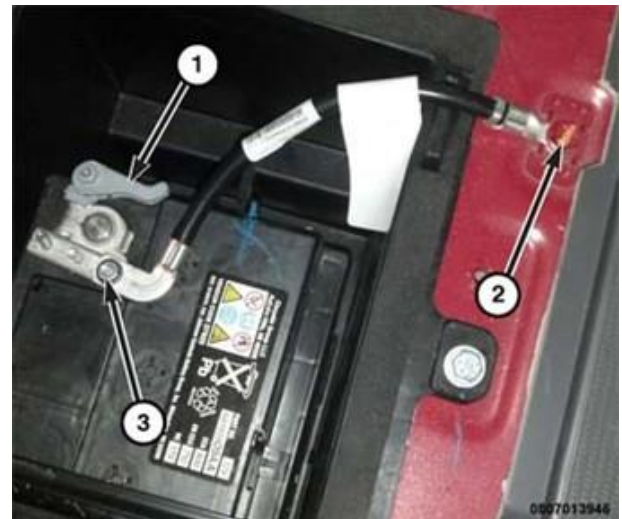

Figure 9 – Battery
5. Loosen the battery negative cable terminal clamp (1) and remove the negative cable from the battery negative terminal post to disconnect the battery, then isolate negative cable (Figure 9).
18. Install the battery negative cable onto the battery post. Lock the clamp (1) to connect the battery (Figure 9).